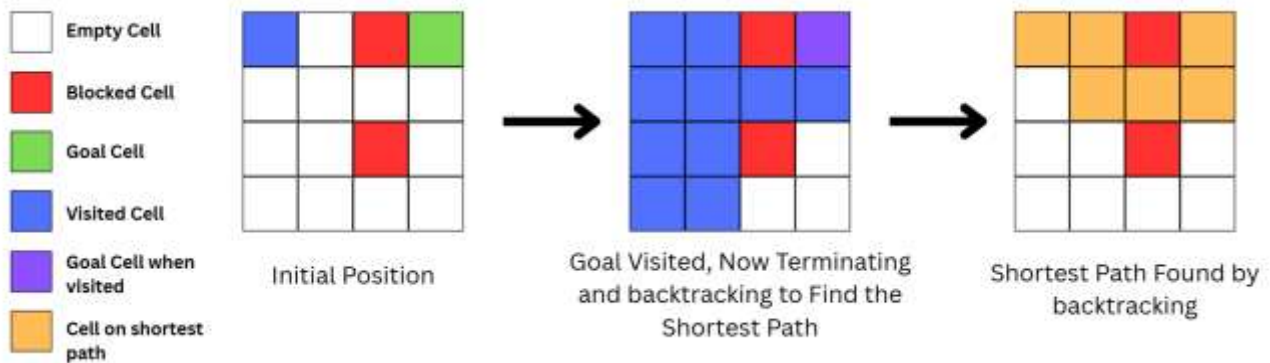

Fig. 1 Visualization of Shortest Path Finding using Breadth First Search
2) *Breadth First Traversal*: Visit all neighbours first, put them in a visited queue and visit their neighbours which aren't in the visited queue till reaching the target, while keeping a log of cell transitions. Once the target is reached use the logged data to backtrack and find the shortest path. [Fig.1]